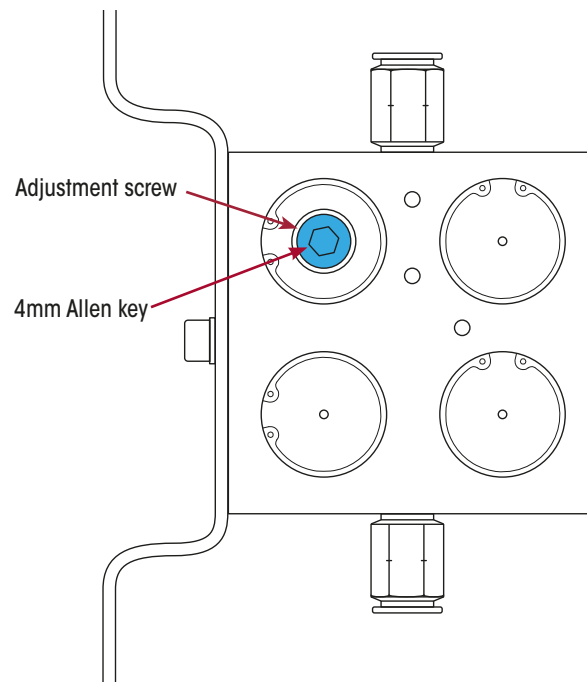

Figure 21: Lift Pressure Adjustment
2. Adjustment for the lift pressure is a 4 mm Allen key screw on the left-hand side of the valve. This may be located underneath a yellow plastic cap. If so, ensure the yellow cap is refitted after removal to minimise dust ingress. Refer Figure 21.